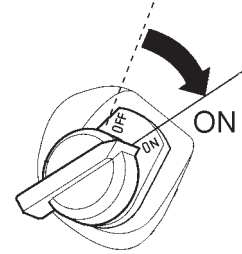

Figure 12. Engine ON/OFF Switch (ON)
4. Place the **engine ON/OFF switch** (Figure 12) in the "ON" position.